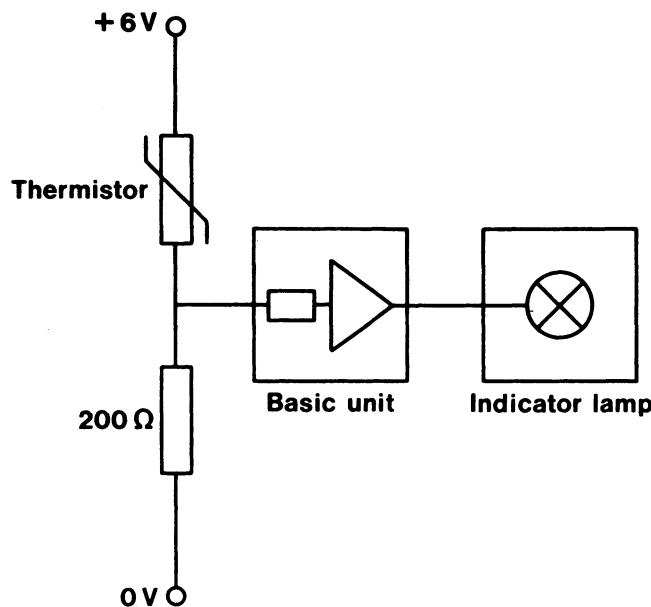
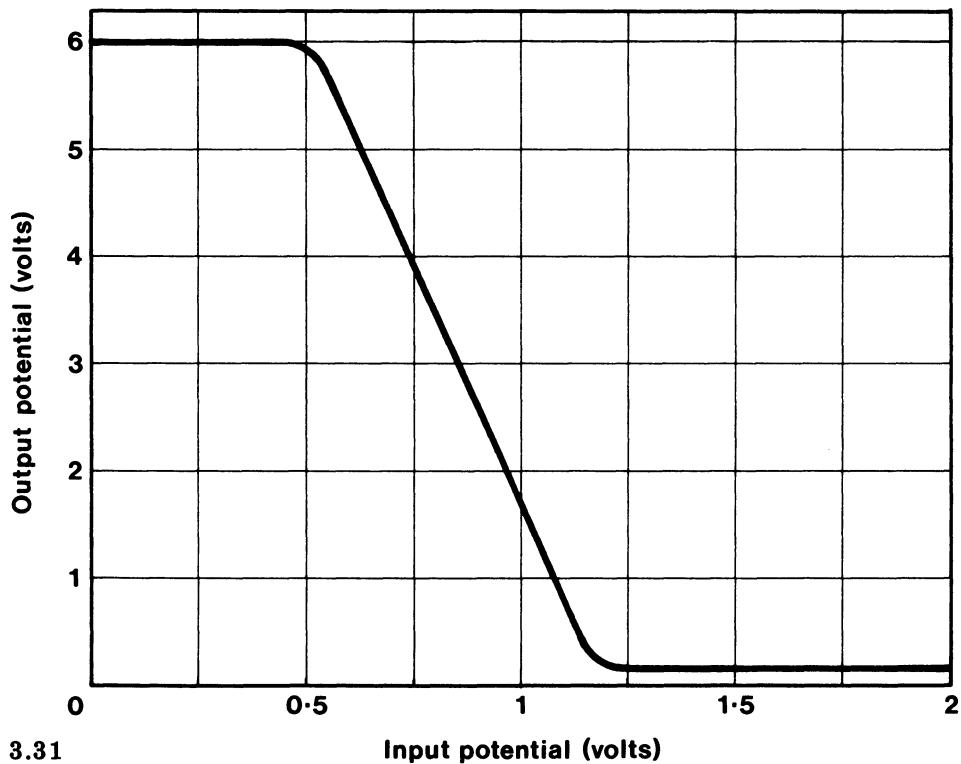

FIG. 3.30
FIG. 3.31
25. The circuit shown below (Fig. 3.30) has a thermistor (a resistor whose resistance changes with temperature) in series with a fixed resistor of  $200 \Omega$ . The circuit is designed to *switch on* the lamp indicator at *low* temperatures. The lamp indicator is fully lit when the potential difference across it is 6 V. The graph below (Fig. 3.31) gives the output-input characteristics of the basic unit.